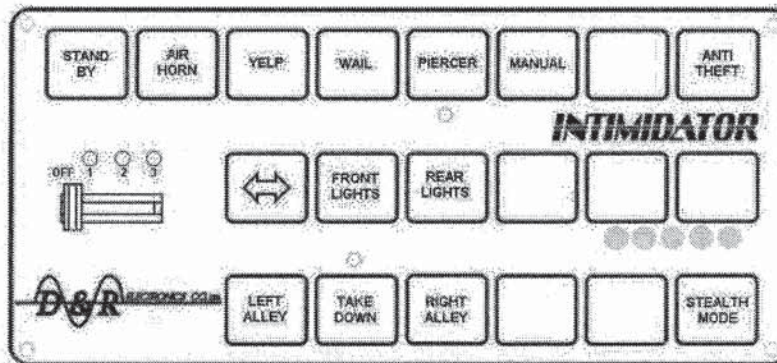

Figure 13 – D&R Electronics – Intimidator Controller
- a.** Siren buttons: “manual”, “stand-by”, “air horn”, “piercer”, “wail”, “yelp”, and “hi-lo” (if this siren tone is available). Function assignment for buttons shall follow the layout examples in Figures 13 to 14 as close as possible;
- (1). **Position 1:** All rear-mounted police lights activated (hide-away, rear tail lights flasher, rear visor / traffic director on warning mode, deck lights) and all intersection lights activated;
- (2). **Position 2:** All front-mounted police lights activated (hide-away, wig-wag, grille lights and front visor) and all intersection lights activated; and
- (3). **Position 3:** All police lights activated (including roof light bar, front visor, and rear visor / traffic director on warning mode).
- (1). Press one time: Move traffic to the left;
- (2). Press a second time: Move traffic to the right; and
- (3). Press a third time: "Warning" mode;
20. Function assignment for all buttons and switches on the emergency equipment controllers shall follow the layout examples in *Figures 13 to 14*.
- a. *D&R Electronics – Intimidator*, model F3.3150S (see *Figure 13* for configuration);